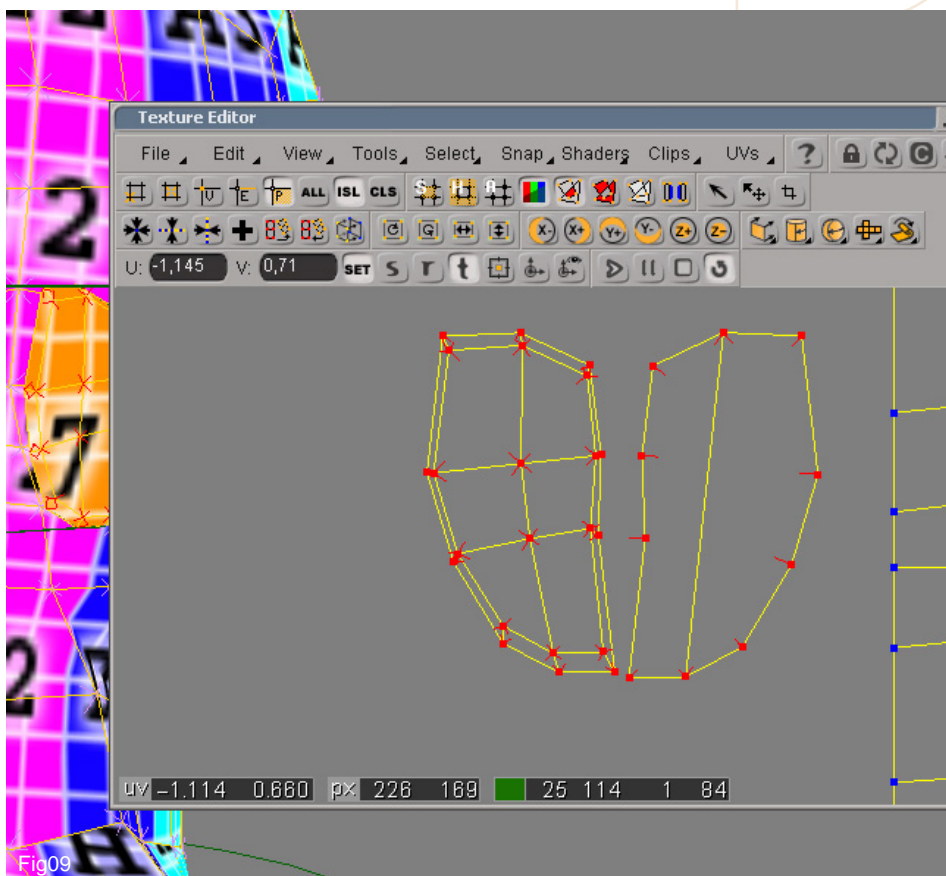

Fig09
9. Select the inner polygons of the ear, and apply a new Planar sub-projection (BestFit). Now move these new coordinates aside with the parts we have already mapped (head and outer ear), and scale them to fit the size of the outer ear, like shown in Fig09. When you need to select and move clusters of coordinates (like the ear parts or the head) you don't need to manually select the components every time; you can just activate the ISL icon which will allow you to select the entire part clicking on only one of its components (vertex, edges, polygons).